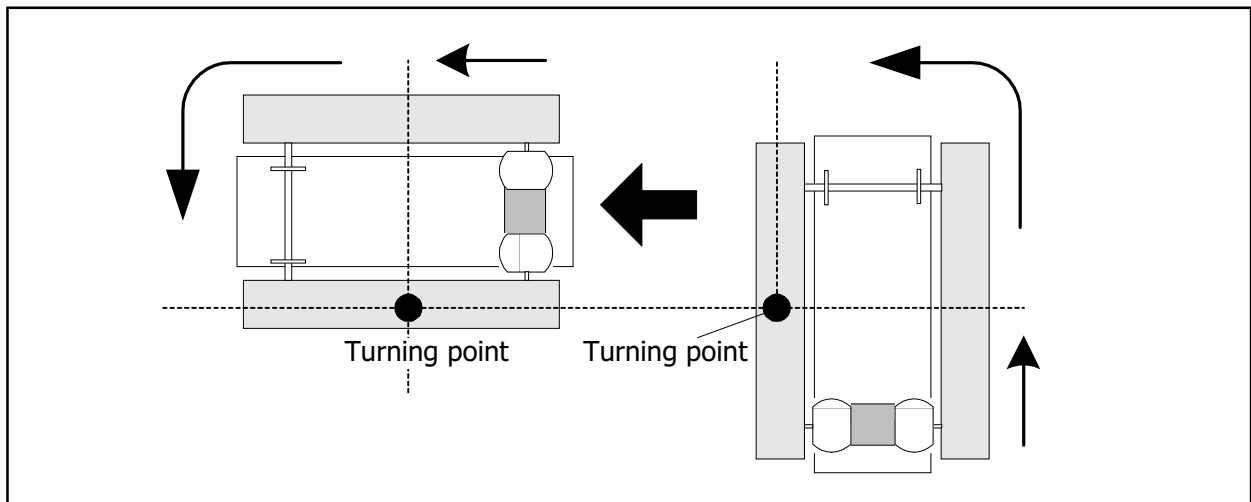

Figure A3-1 Turning method by stopping a motor and fix a wheel.
1. **Stop one motor and Drive another one** If stop left motor and drive right motor, the robot will turn left. In the opposite direction, stop right motor and drive left motor. The robot will turn right. The speed of movement is similar. The pivot turning point of this is at the stationary track. See the Figure A3-1.